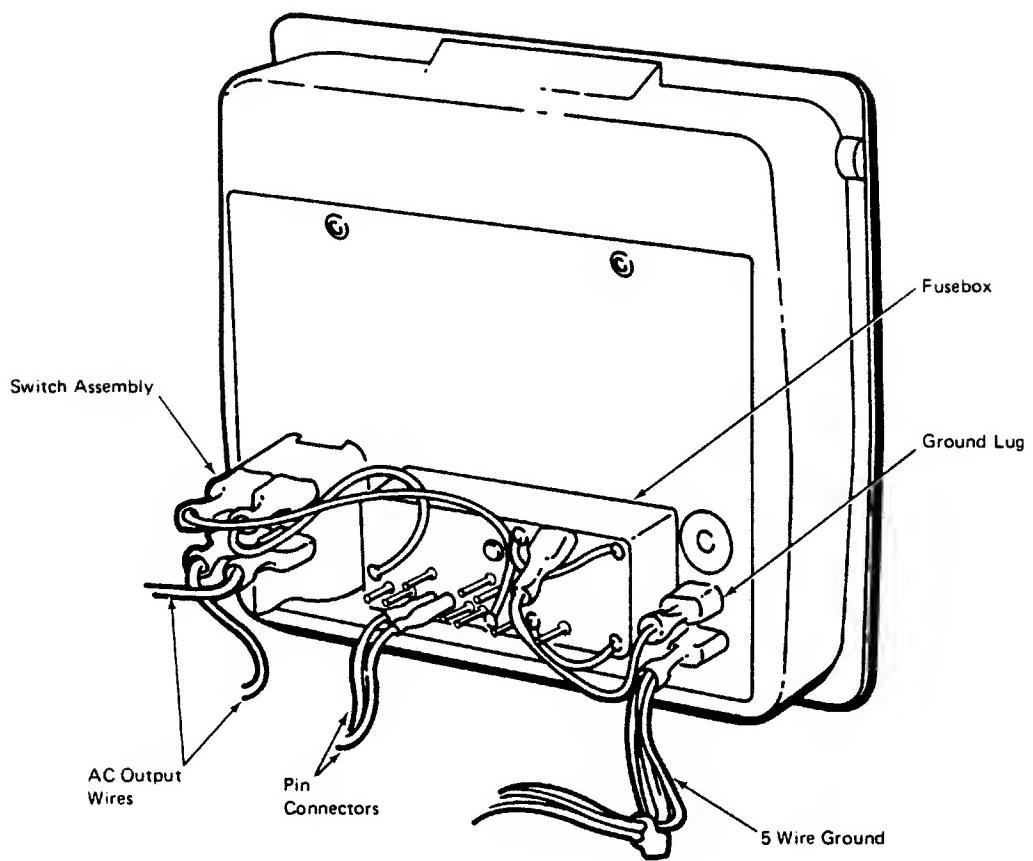

FIGURE 6-24. AC POWER PANEL
- 6.8.0.3 Position the AC power panel with connectors facing technician, switch assembly in lower left corner, and ground wire connection at lower right (See Figure 6-24).